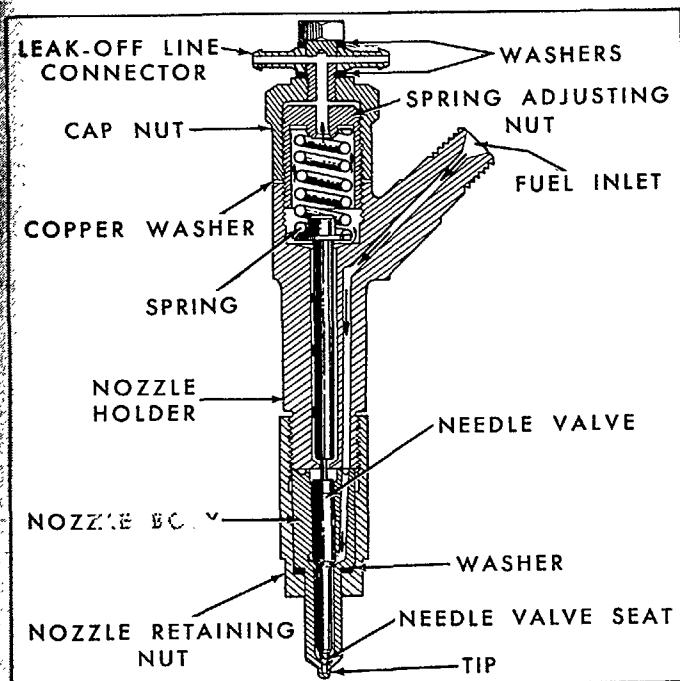
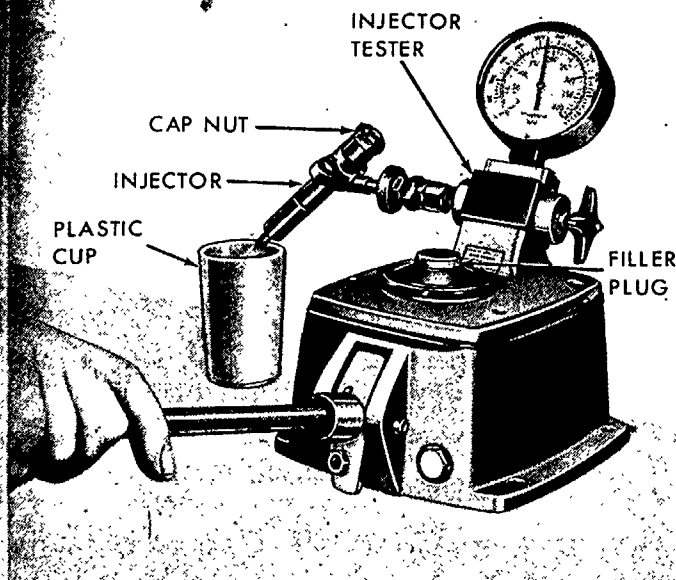

Figure 25
Figure 28
A sectional view of an injector is shown in Figure 25. Fuel from the injection pump enters the injector fuel inlet and passes through the injector body before reaching the nozzle valve seat. The pressure of the fuel from the injection pump causes the needle valve to open against the action of the injector spring. Fuel is then forced in a highly atomized state through the holes in the nozzle tip. When the pressure from the injection pump drops off, the injector spring forces the needle valve back on its seat. A small amount of fuel leaks up between the needle valve sleeve and the nozzle body, thus providing lubrication. The excess fuel rises to the top of the injector where it is gradually forced back to the fuel tank through the injector leak-off line.
Fill the Injector Tester, page 32, Figure 28, with cali-
- 1. Nozzle Opening Pressure:** Pump the injector tester, Figure 28, and observe the gauge reading at which the nozzle "pops off". The nozzle opening pressure should be between 2720-2794 psi (190.4-196.4 kg/sq. cm). To adjust the pressure, remove the cap nut, Figure 25, and tighten or loosen the spring adjusting nut as required.